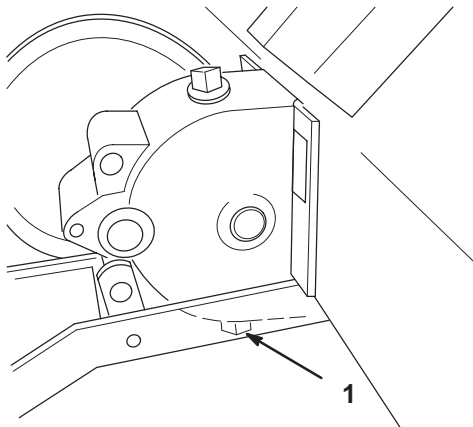

Figure 26
2. Clean the area around the lower pipe plug (Fig. 26).